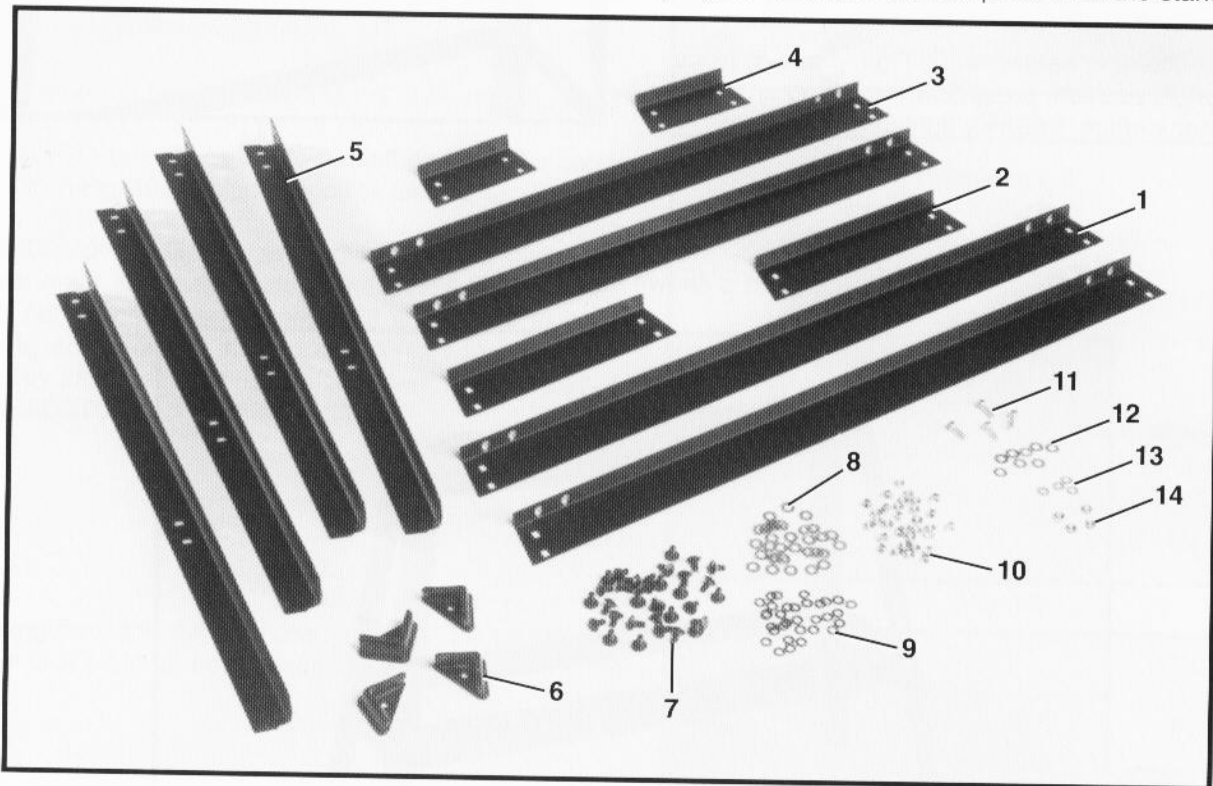

Fig. 3
2. If you purchased the Floor Model 46-701 Wood Lathe, Fig. 3 illustrates the components of the stand.